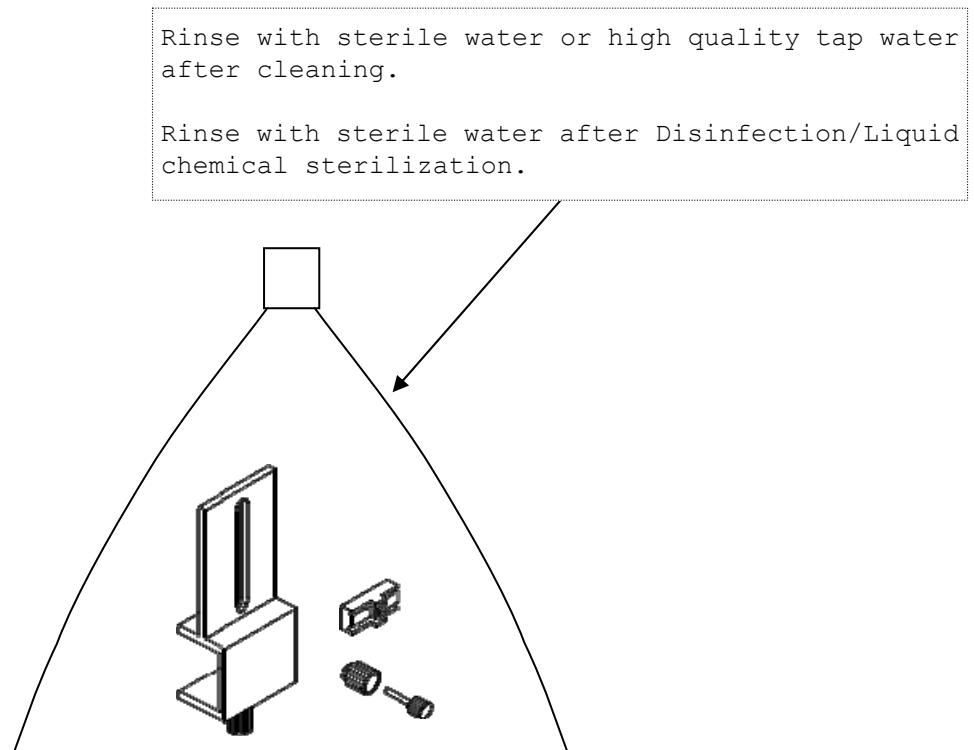

Fig.7 Rinse of the puncture guide fixture
- 4) Rinse parts of the Puncture Guide Fixture thoroughly with high-quality tap water to remove all residue of the detergent solution(as shown in Fig.7).